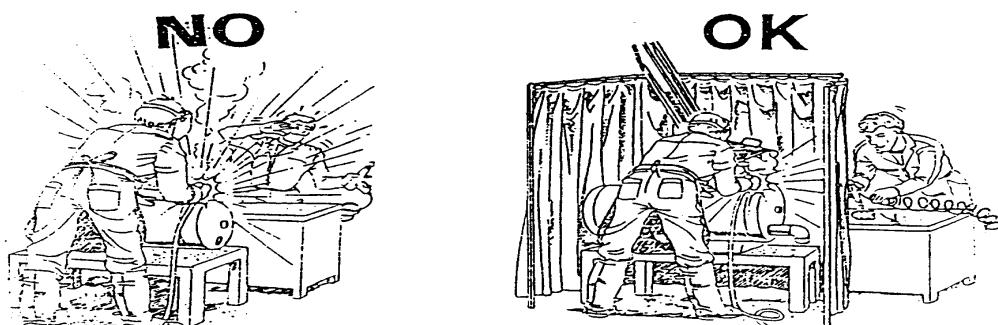

FIG.3
- Welding should be done in a closed area that does not open onto other working areas, in order to protect all workers against radiation and fumes. If such an area cannot be provided, the welding area must be delimited by protective screens painted in opaque black large enough to restrain the visibility of any person situated near the area (Fig. 3).